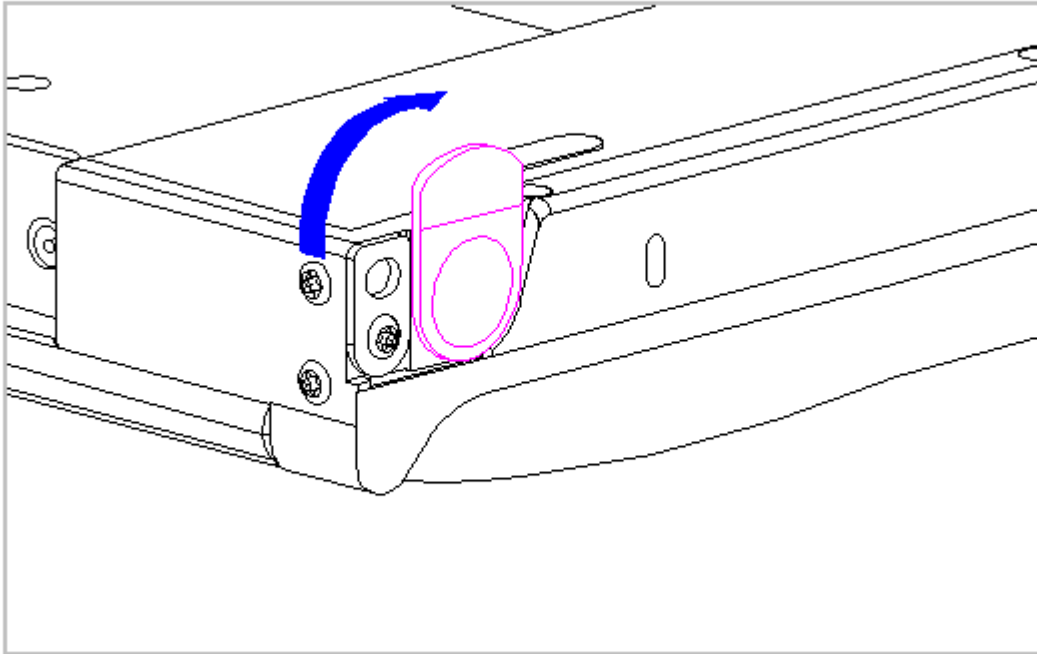

Figure 3-5. Positioning the Tilt Foot
3. Move the tilt foot toward the front of the computer, exposing the handle bracket screw on either side of the computer (Figure 3-5).